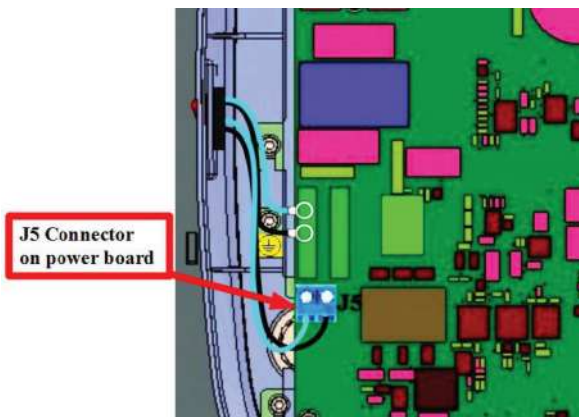

Figure 132
- Disconnect the wires(Pin terminals) from the J5 connector on the power board using a Jewel screw driver as shown in Figure 132 (Live=Black & Neutral=Blue).
- Connect the switch wires(Pin terminals) to the J5 connector on the power board using a Jewel screw driver as shown in Figure 132 (Live=Black & Neutral=Blue).